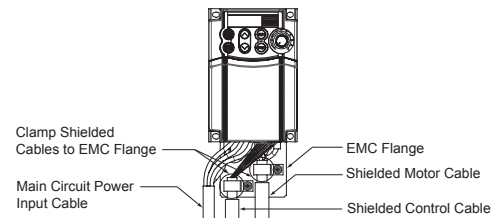

Figure2. Connecting Shielded Cables
- (2) Use shielded wires for the motor cable and route it as short as possible. Firmly clamp the wire shield to the flange to ground it. Further, connect the wire shield electrically to the grounding terminal of motor. (See Figure 2.)
- (3) Use shielded wires for the control signals of the inverter to input to/output from the control terminals. Firmly clamp the control wire shields to the EMC grounding flange (in the same way as the motor cables.)